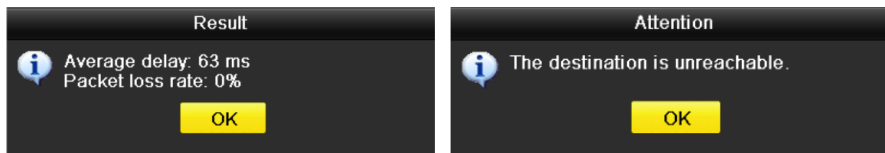

Figure 12-27 Testing Result of Network Delay and Packet Loss
Step 4 Click **Test** button to start testing network delay and packet loss. The testing result pops up on the window. If the testing is failed, the error message box will pop up as well. Refer to Figure 12-27.